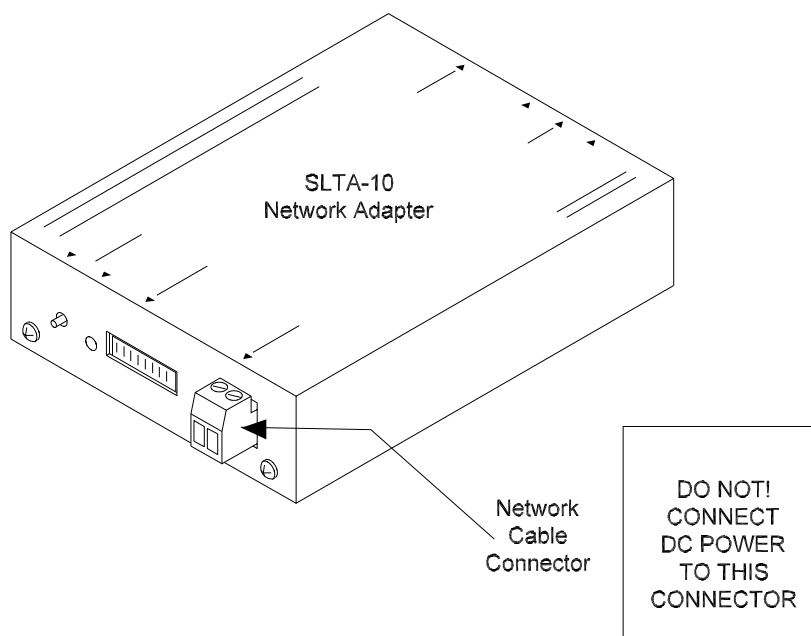

Figure 6.5 SLTA-10 Network connector
Step 3: Connect the two conductors of the network cable to the SLTA-10 network connector plug and install on the network terminals. See *figure 6.5*.